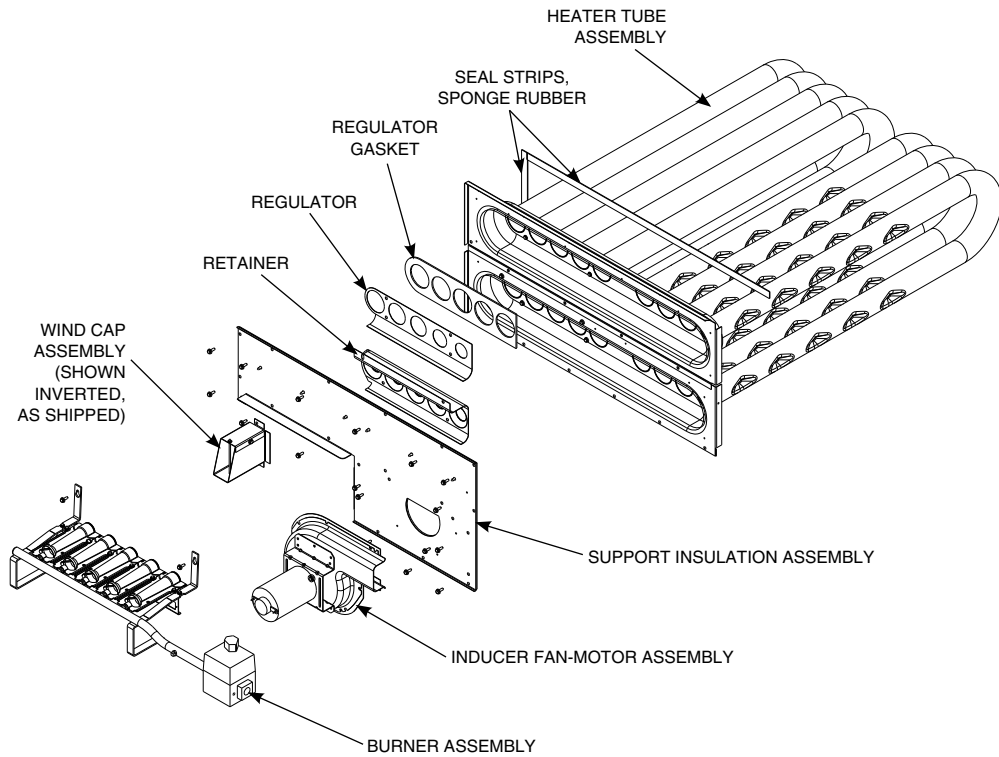

Fig. 32 – Heat Exchanger Assembly
1. Remove the combustion blower wheel and motor assembly according to directions in Combustion-Air Blower section. (See Fig. 32.)
2. Remove the 7 screws that attach induced-draft motor housing to vestibule plate. (See Fig. 32.)
7. Remove the 2 screws that attach the burner rack to the vestibule plate. (See Fig. 32.)